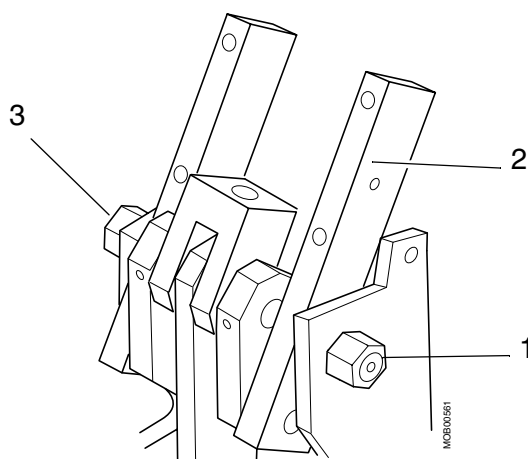
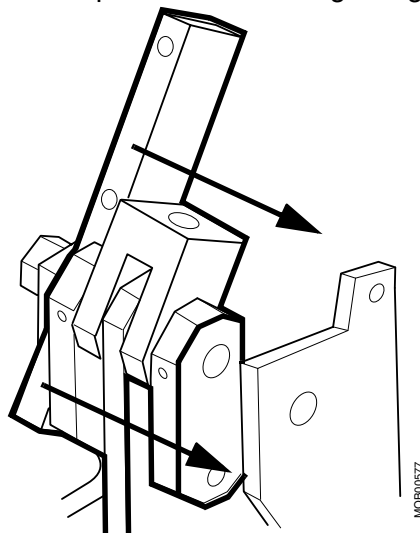

Fig. 32 Removing arm supports
Fig. 33 Removing lower arm link
45. Remove the screw (pos. 1 / Fig. 32) so that the arm support (pos. 2 / Fig. 32) comes loose. There is a spacer-washer in between, keep it safe for reassembly.
46. Carefully work the arm support free (pos. 2 / Fig. 32), and then remove it.
47. Loosen the other screw (pos. 3 / Fig. 32) so that the other arm support and the lower arm link can be pulled off according to Fig. 33.